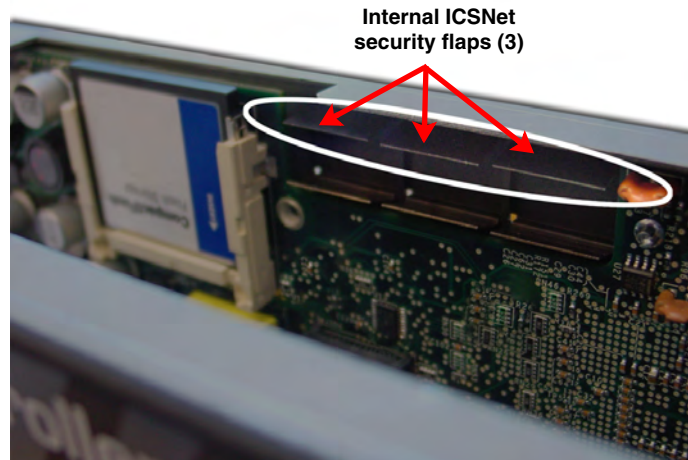

FIG. 12 ICSNet security flaps
2. Locate the three internal ICSNet cover plate security flaps (FIG. 12).